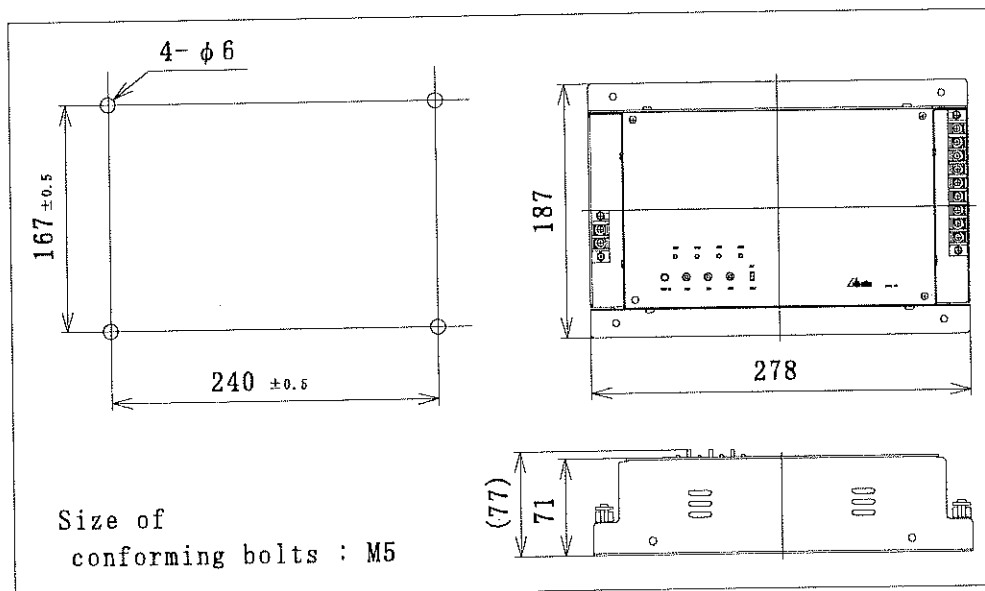

Fig 5-1
(1) Cut mounting holes to the panel. Panel-cut dimensions and transmitter's outline dimensions are shown Figure 5-1.